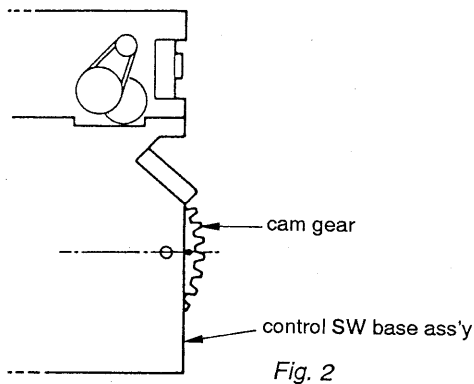

Fig. 2
1. Set the ● mark of the cam gear and the hole on the control SW base ass'y as shown on figure 2.